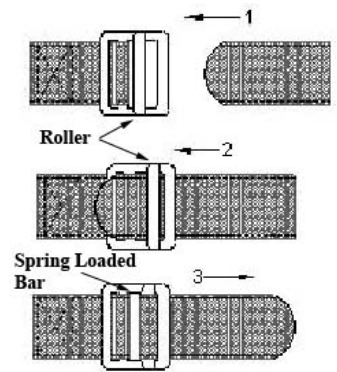

Figure 10
- 4) Thread the free end of the strap through the Spring-Loaded Friction Buckle as shown in Figure 10.